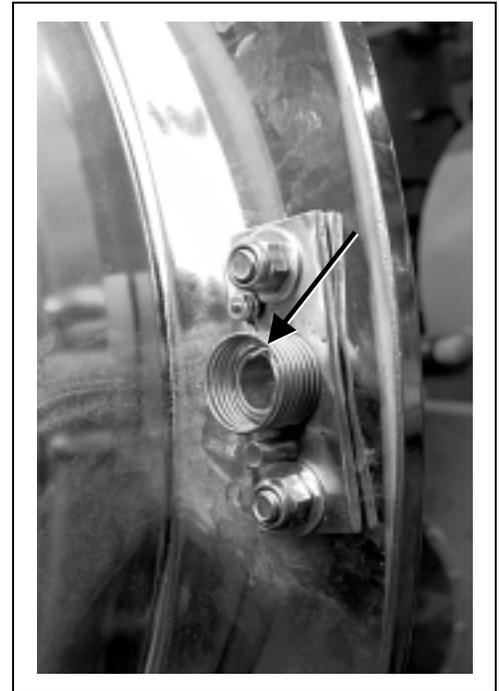

FIGURE 6 (MSSM0288AE)
6. Open door, allowing the shaft to slide out of the door. The shaft remains in the door locking mechanism. Make sure that the return spring (FIGURE 6) slides out of the retaining hole in the door shaft cam.